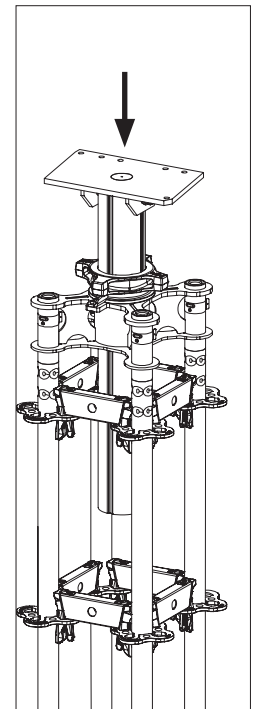

Fig. A5.10b
2. Spindle off the head spindle. (Fig. A5.10b)